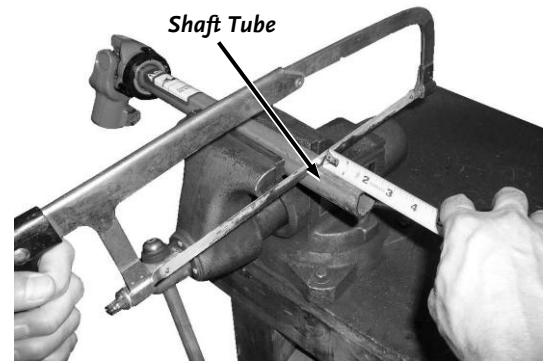

Figure 12
4. Measure and cut each Shaft Tubes to the required length using the hacksaw (**Figure 12**).